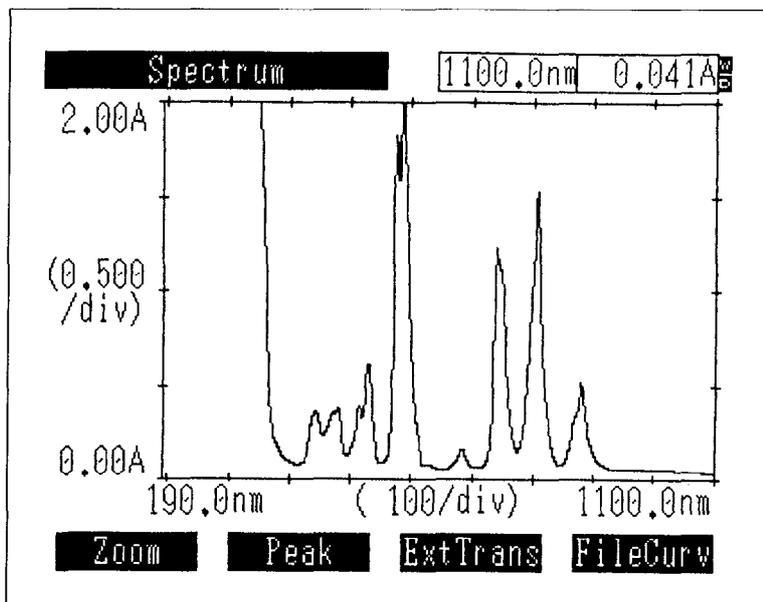

Fig. 3.4.1 Hard copy of screen
① Hard copy of screen (Fig. 3.4.1)